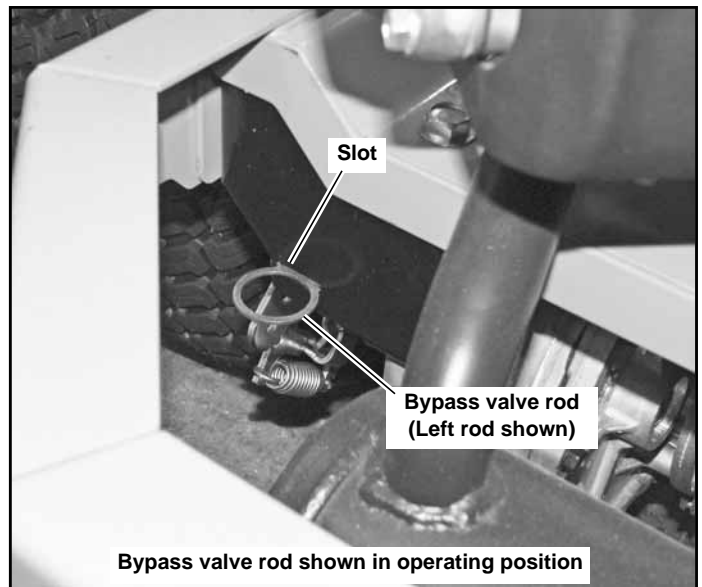

Figure 4-21
3. With the bypass valve open and the engine running, slowly move the directional control in both forward and reverse directions (5 or 6 times). Figure 4-21